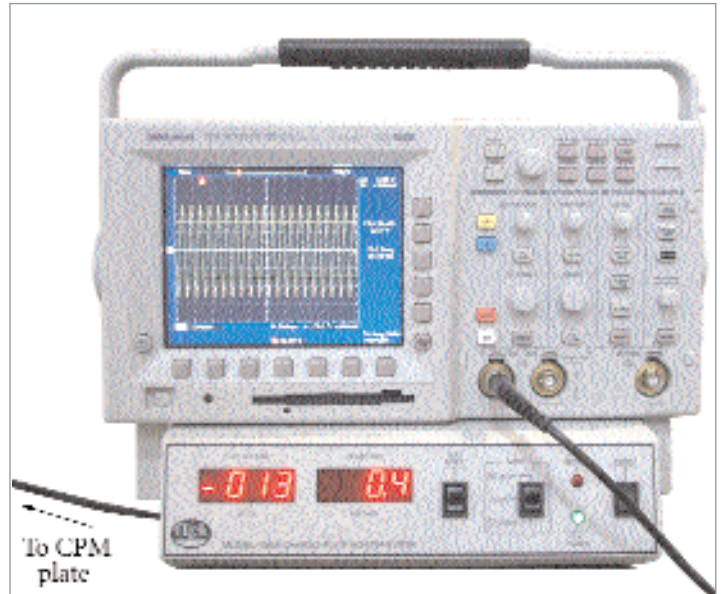

Figure 2. Using a charge plate monitor along with a DSO.
In a recent preventative maintenance (PM) operation, a VF ionizer was operated at a frequency of 16 Hz. The ionizer was measured with a Trek 156A CPM and a Tektronix TDS340 (100 MHz) DSO. Measurements were taken with the CPM plate placed 60 cm from the ionizer. (See Figure 2.) The CPM indicated offset readings from 0 to 14, representing a maximum offset voltage of 14 volts, while the oscilloscope indicated 87 volts. This variance can mean the difference between protecting and damaging the product.